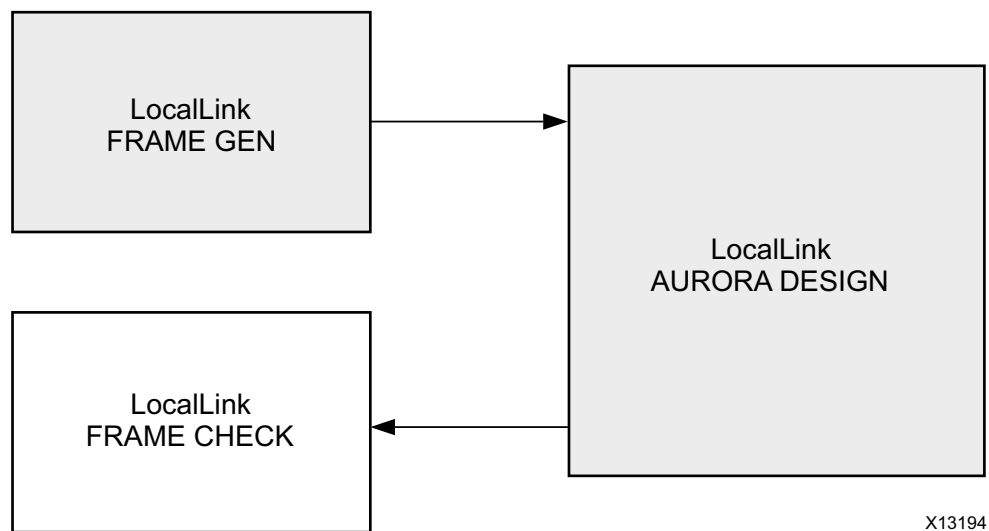
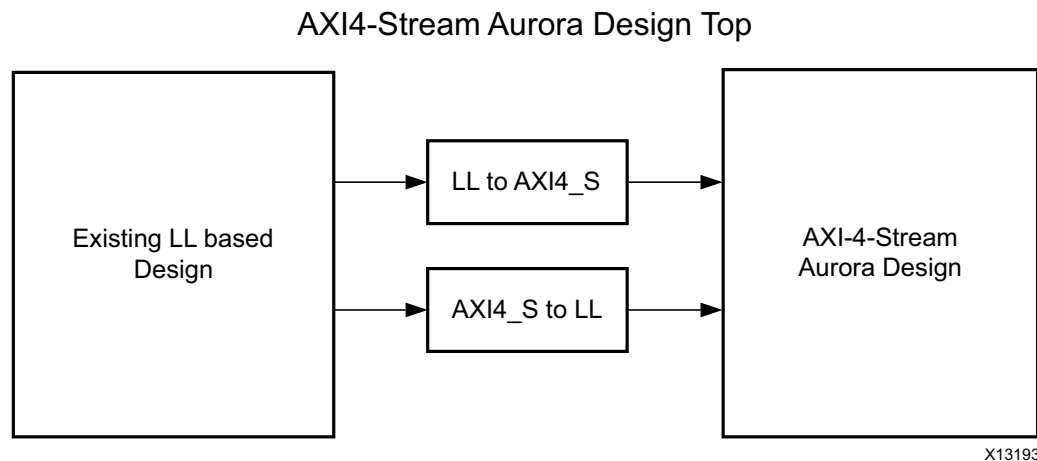

Figure B-1: Legacy Aurora Example Design
Figure B-2: **AXI4-Stream Aurora Example Design**
Figure B-1 shows an example Aurora design using the legacy LocalLink interface. Figure B-2 shows an example Aurora design using the AXI4-Stream interface.
2. See Figure B-2, page 109 for the emulation of an LL Aurora core from an AXI4-Stream Aurora core.
5. Connect the shim and AXI4-Stream Aurora design as shown in Figure B-2, page 109.